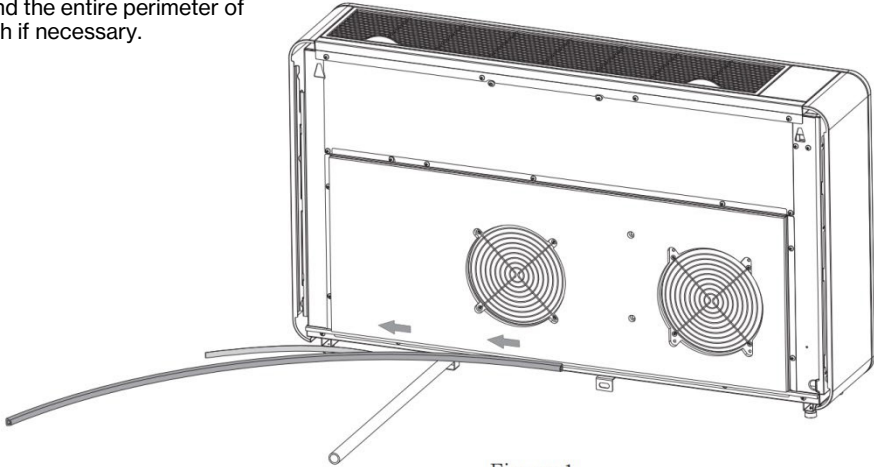

Figure 1
1. Apply the sealing strip along the edge of the unit as shown in Figure 1.